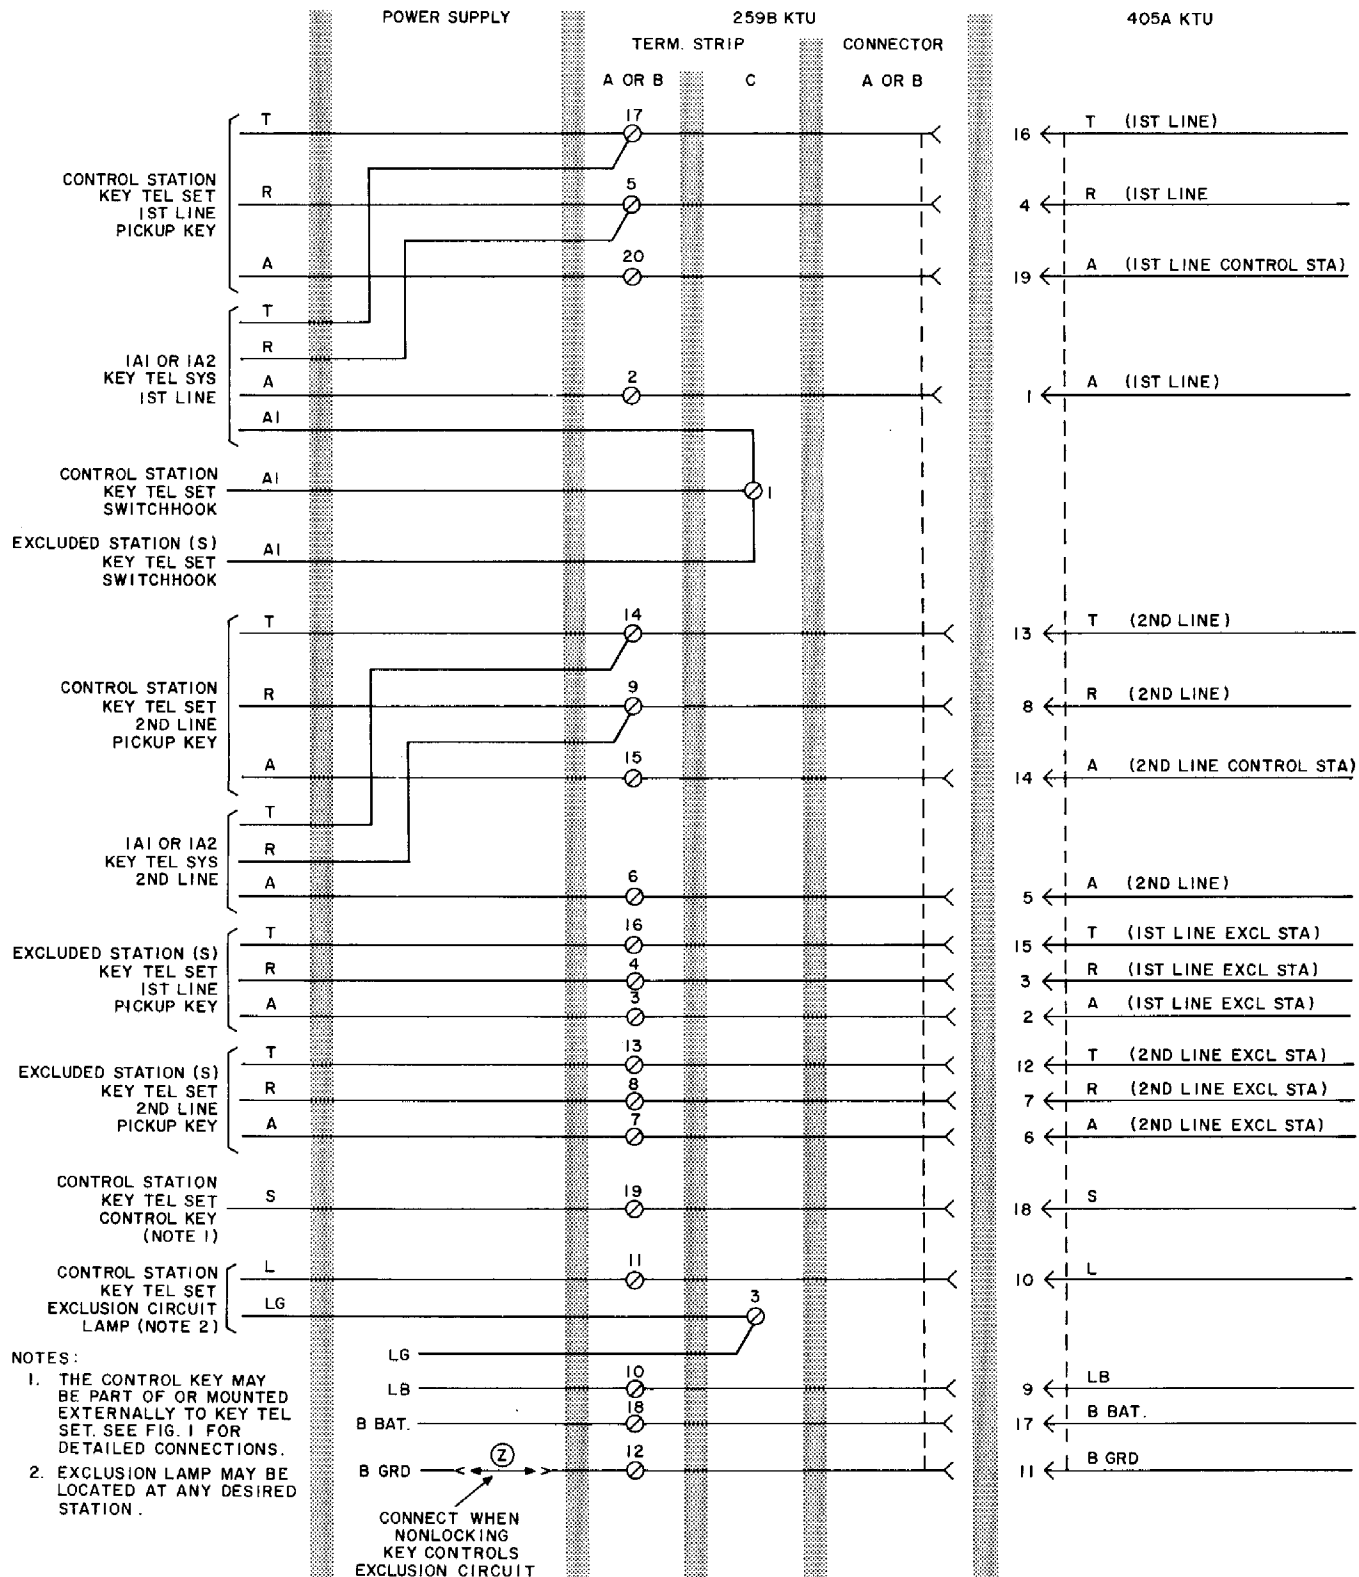

Fig. 2 — Connections for 405A KTU
4.02 Connect the 405A KTU as shown in Fig. 2. The figure shows the connections required when using the 259B KTU adapter.
4.03 Use option Z (Fig. 2) when a nonlocking key is used to control the exclusion circuit.